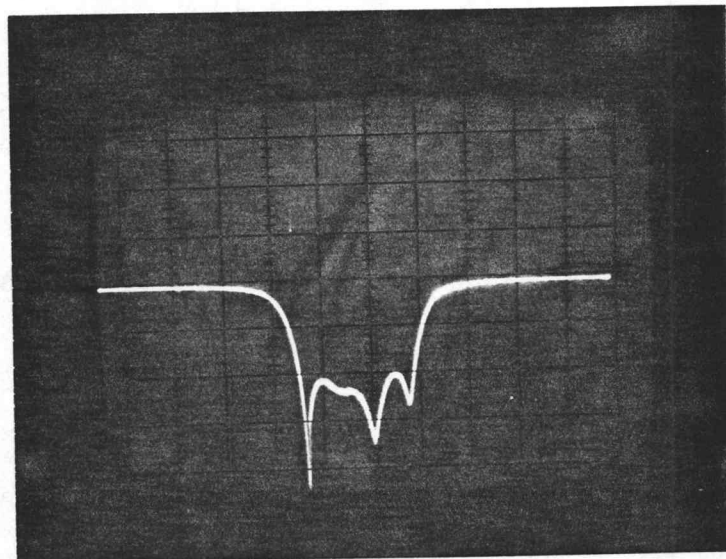

Fig. 9
Insert 5/64 allen into #4 tuning screw, turn CCW until display looks like Fig. 9. Tighten down keeping the display centered and looking the same. Most likely you won't be able to get this display but do your best.
6. All of the equipment must return back to their previous positions, see (Step 3). The display most likely won't look like Fig. 9 anymore so reset all of the tuning screws starting with #4 and working back (if they need it).